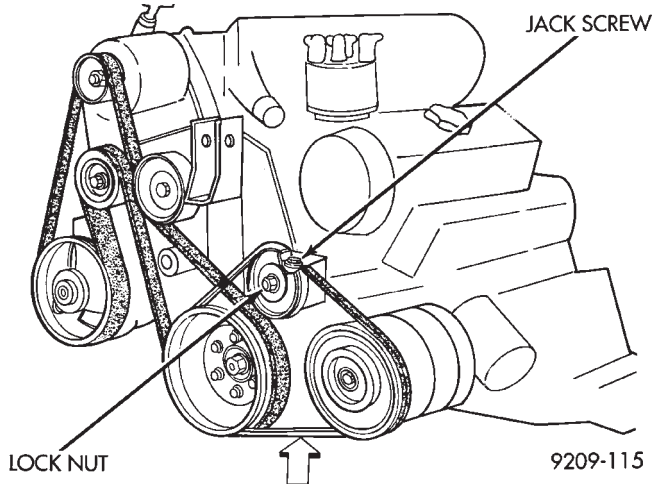
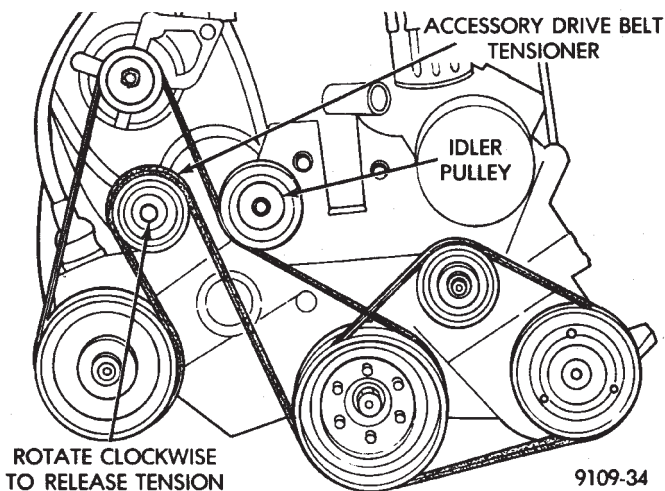

Fig. 6 Air Conditioning Belt
Fig. 7 Alternator/Power Steering Belt
- (1) Loosen adjusting lock nut (Fig. 6).
- (2) Turn adjusting jack screw counterclockwise to reduce belt tension. Remove belt.
- (4) Installation: Adjust belt tension to 5/16 deflection between pulleys (Fig. 6).
- (5) Install breaker bar into 1/2 square opening in tensioner.
- (6) Rotate tensioner counterclockwise to remove and install belt (Fig. 7).